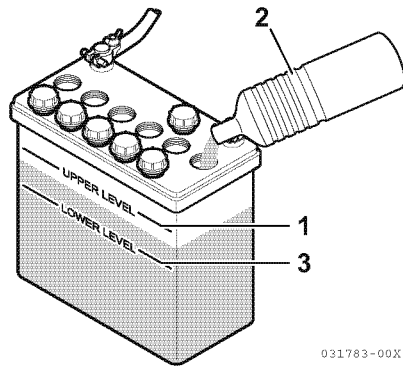

Figure 5-1
- When the amount of fluid nears the lower limit (3, **Figure 5-1**), fill with distilled water (2, **Figure 5-1**) so it is at the upper limit (1, **Figure 5-1**). If operation continues with insufficient battery fluid, the battery life is shortened, and the battery may overheat and explode. During the summer, check the fluid level more often than specified.